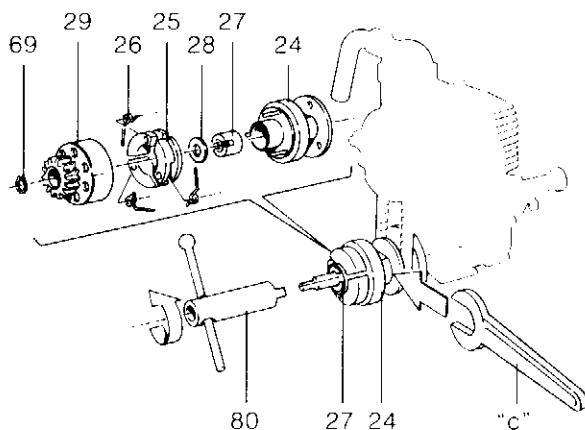

Fig. 11
Changing the clutch shoes (Fig. 11)
- remove the spring washer (69) and slide off the clutch drum (29) with the shim (28);
- remove the worn clutch shoes retaining their counter springs (26) for use again if still in good condition, otherwise replace them;
- insert the counter springs (26) in their locations in the new clutch shoes (25) in the positions shown in Fig. 11, and fix the clutch shoes on to their respective pins;
- replace the shim (28) then the clutch drum (29) and the spring washer (69).
Complete clutch, clutch-drum and flywheel change (Fig. 11)